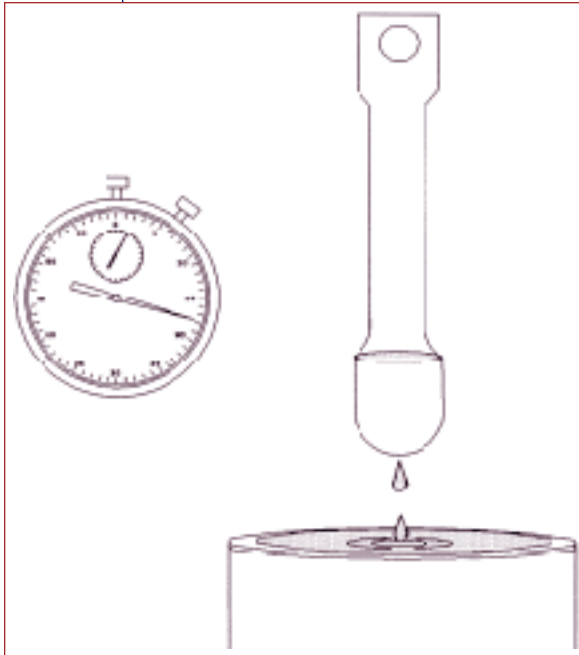

Figure 5: Zahn Cup
**A.** Always have the correct gun setup for the coating to be sprayed and the size of the area to be covered. These variables include the size of fluid tip and air cap used. Fluid tip size is determined by the viscosity of the coating as well as the flow rate setting of the gun. The viscosity is determined using a Zahn cup measuring system (see figure 5, pg 14).